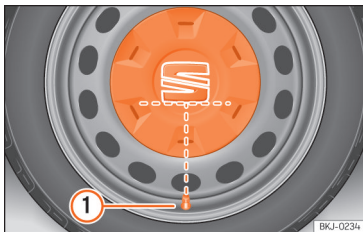

Fig. 186 Correct positioning of the central wheel trim for steel rims.
- Fit the central wheel trim onto the rim. The bottom of the "S" of the SEAT badge should align with the inflation valve >>> Fig. 186 ①.